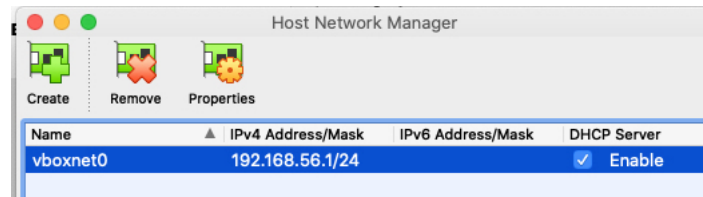

Figure 1: Host Network Manager in VirtualBox
4. By default it should create an entry 'vboxnet0' with an IPv4 Address/Mask of 192.168.56.1/24 as shown in Figure 1. If not, you will need to manually edit this by clicking on the 'Properties' button. Make sure that the DHCP Server is enabled by checking the Enable box.